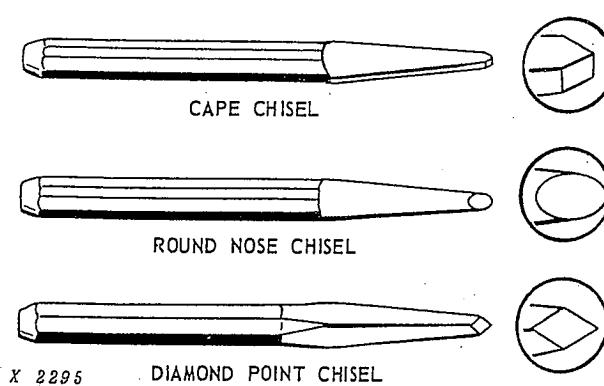

Fig. 42 — Special Chisels
**Cape chisels** (Fig. 42) are used for cutting keyways, narrow grooves, and square corners.